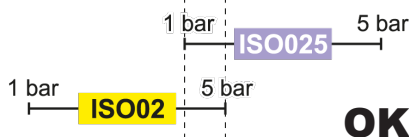

Fig. 126
• **Compatible nozzles:** the rate at 1 bar of the ISO025 nozzle is LOWER than the rate at 5 bars of the ISO02 nozzle (Fig. 126).